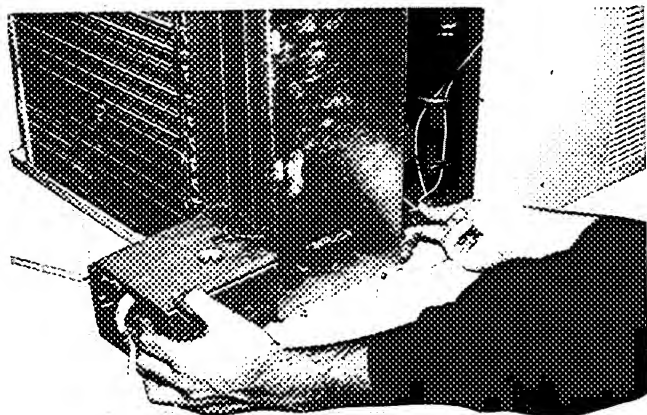

Fig. 4 – Removing Control Box
NOTE: Sliding chassis partly out of casing ensures that the wiring does not become pinched when the control box is replaced. See Fig. 4.
9. Reverse above procedure for reassembly, taking care not to pinch any wiring inside the control box. This is accomplished by guiding the wiring from the rear of the control as shown in Fig. 4.